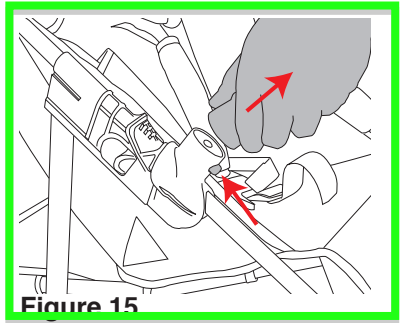

Figure 15
- Remove the two safety caps from the frame mount points by pressing the release button and pulling each cap off. See Figure 15.